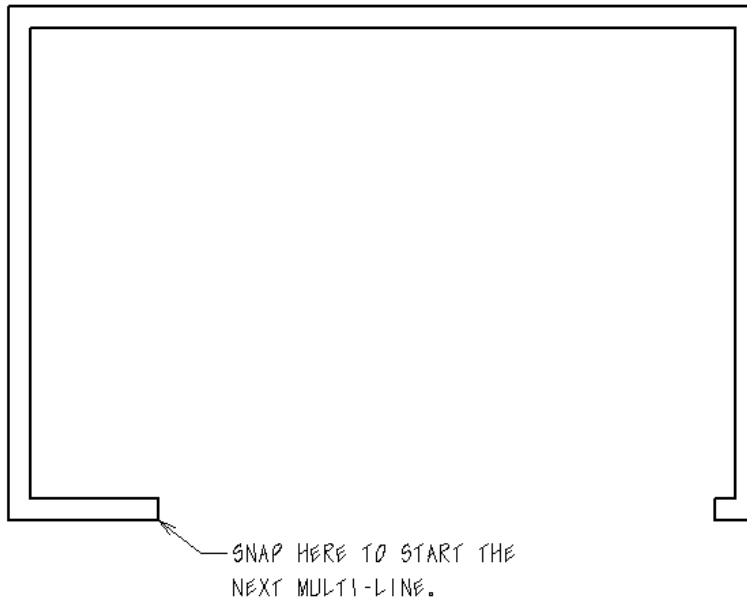

Figure P8-8 Completed outer wall Multi-line elements
- STEP 3:** With the Multi-line tool still active, start the next short piece of multi-line outer wall by Keypoint snapping to the lower right corner of the bottom left horizontal wall, as shown by the note in Figure P8-8.
The completed Multi-line element is shown in Figure P8-8.